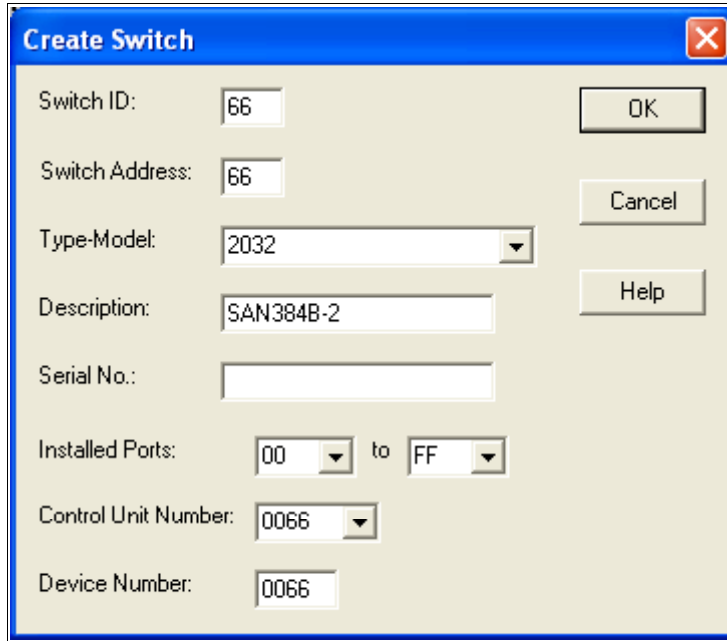

Figure 7-17 HCM Create Switch
8. Select **Create** → **Switch**, and enter the following values, as shown in Figure 7-17: